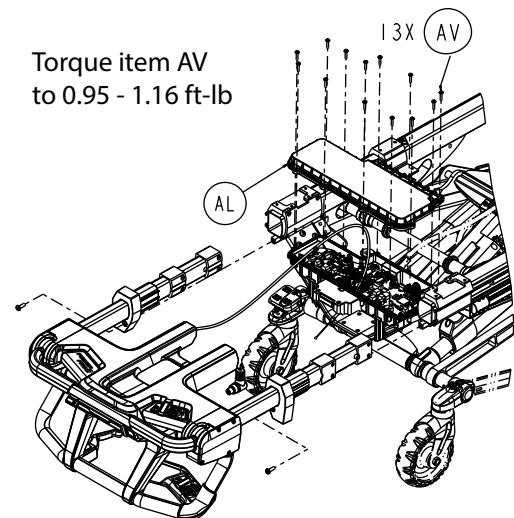

Figure 39 – Remove the FEIB cover screws
10. Using a T20 Torx driver, remove the thirteen round washer head tapping screws (AV) that secure the top FEIB enclosure (AL) to the bottom FEIB enclosure (Figure 39). Save the screws.